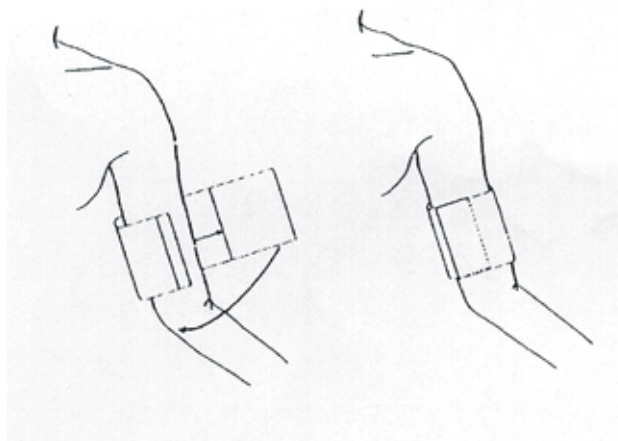

Figure 14-2 Applying Cuff
2. Apply the blood pressure cuff to the patient's arm or leg following the instructions below (Figure 14-2).